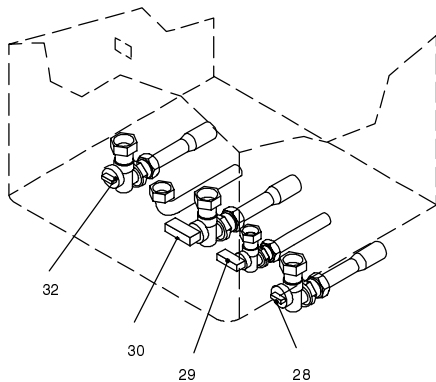

fig. 6.3
- 1 Turn off the dhw inlet cock 29 (fig. 6.3) and turn on the "utilities" cocks.
- 1 Turn off the c.h. cocks (32, 28 in fig. 6.3).